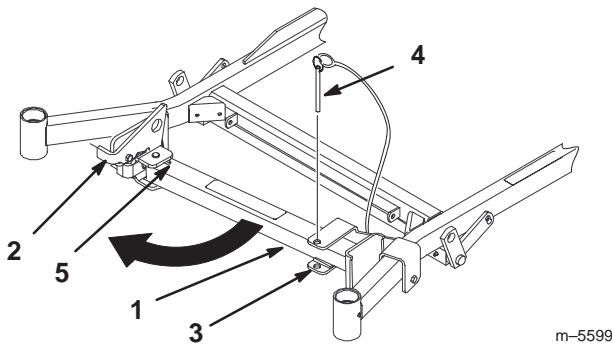

Figure 26
2. Remove bracket pin (Fig. 26).
3. Raise latch. Swing stand foot out front and slide stand toward machine, into the bottom of slot (Fig. 26 and 27).
4. Return stand to its rest position (Fig. 26).